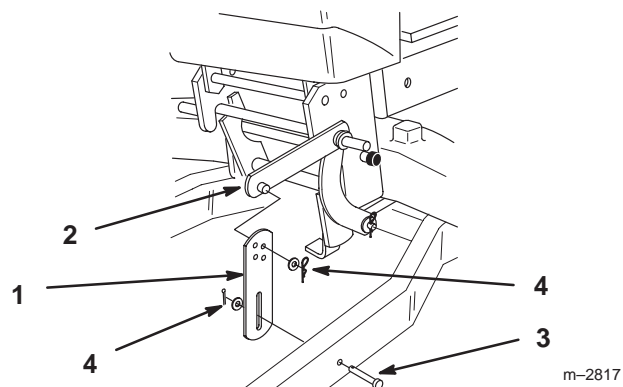

Figure 12
11. Install adjustment link between snowthrower frame, with clevis pin, and lift link arm. Secure with washers and hairpin cottes (Fig. 12).